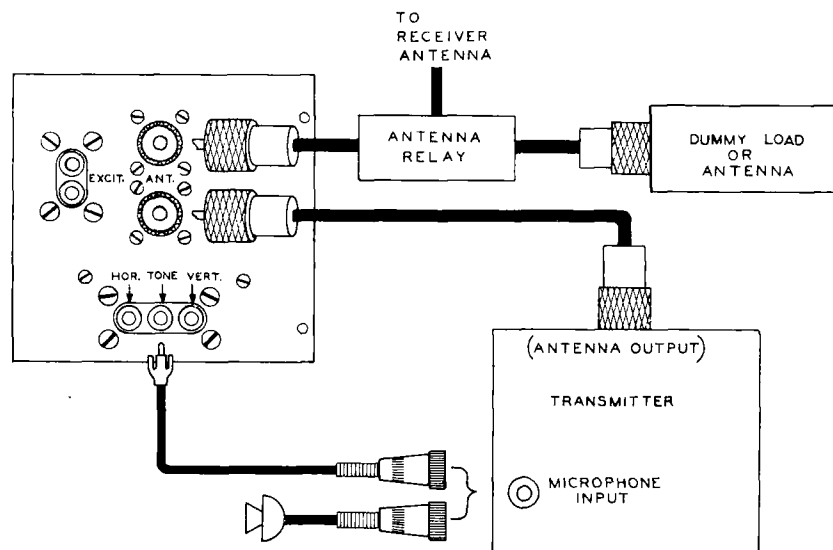

Figure 2
TRANSMIT ENVELOPE PATTERNS (FIGURE 2)
2. Connect the scope to the transceiver as shown in Figure 2 on Page 43.